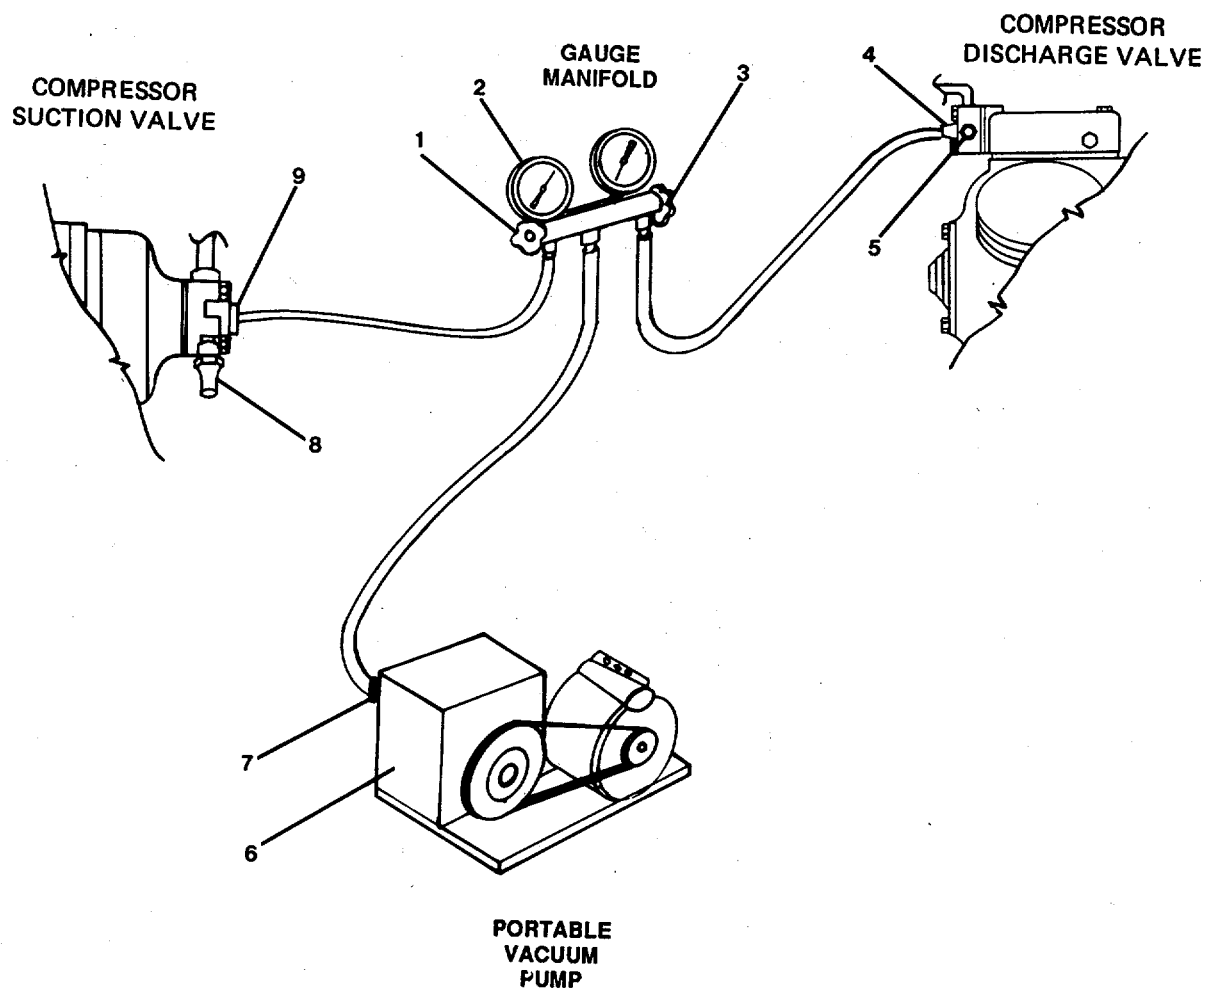

FIGURE 4-23. Evacuating Compressor.
- (1) Connect the common hoseline of a portable gauge manifold to the suction connection (7, FIGURE 4-23) of a portable vacuum pump (6).
- (2) Connect the high pressure hoseline on the gauge manifold to the charging port (4) on the discharge valve.
- (3) Connect the compound (suction pressure) hoseline of the gauge manifold to the charging port (9) on the suction valve.
- (4) Make sure caps (5) and (8) are removed for access to valve stems.
- (5) Close gauge port handwheels (1) and (3) fully clockwise.
- (6) Start the portable vacuum pump (6). Open gauge port handwheels (1) and (3) counterclockwise one-half to one turn.
- (7) Watch the combination gauge (2). When the pressure has decreased to 3 inches vacuum on the gauge, close gauge port handwheels (1) and (3) fully clockwise.
- (8) Turn the portable vacuum pump OFF.
- (9) Disconnect the common hoseline on the gauge manifold from the suction connection (9) on the vacuum pump (8).
- (10) The compressor has now been evacuated and is ready to have R-22 refrigerant charge added.